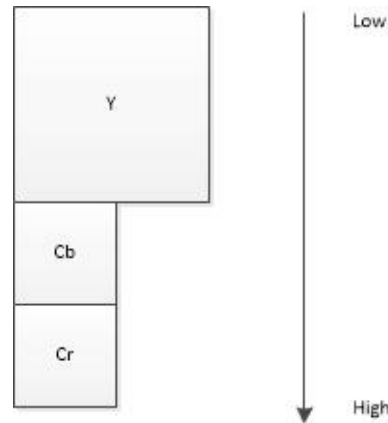

Fig. 7. Layout Planar YCbCr with 4:2:0 subsampling
Layout Planar YCbCr supports all type of subsampling (4:4:4, 4:2:2, 4:2:0 and etc). There are three planes: Y, Cb, Cr. Luminance plane (Y) has the same size as original image. Chrominance planes (Cb and Cr) are downscaled respectively to subsampling. For example for 4:2:0, chrominance value corresponds to one block (2 rows by 2 columns) of original image. Figure 7 shows color planes for 4:2:0 subsampling in memory.